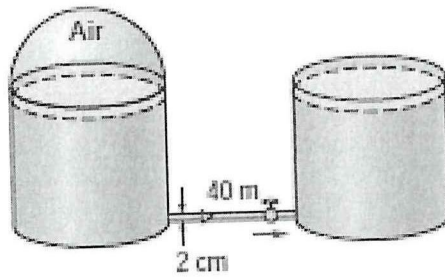

FIGURE Q3(b)
- (c) Two water reservoirs A and B at **Figure Q3(c)**, are connected to each other through a 40-m-long, 2-cm-diameter cast iron pipe with a sharp-edged entrance. The pipe also involves a swing check valve and a fully open gate valve. The water level in both reservoirs is the same, but reservoir A is compressed air while reservoir B is open to the atmosphere at 88 kPa. Take the water temperature to be 10°C. If the initial flow rate through the pipe is 1.2 L/s, determine.